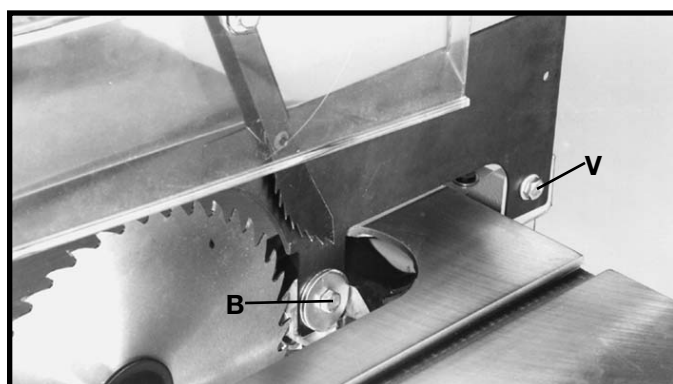

Fig. 25
13. **IMPORTANT:** For certain cutting operations such as dadoing and moulding where you are not cutting completely through the workpiece, the blade guard and splitter assembly cannot be used. Loosen screws (B) and (V) Fig. 25. Lift up and swing blade guard and splitter assembly to the rear of the saw. **CAUTION:** Always return the blade guard and splitter assembly to its proper operating position for normal thru-sawing operations.